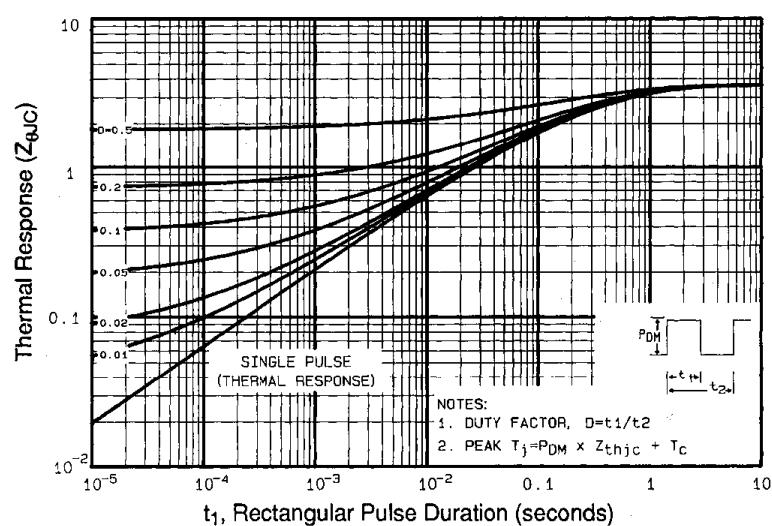

Fig 11. Maximum Effective Transient Thermal Impedance, Junction-to-Case
① Repetitive rating; pulse width limited by max. junction temperature (See Figure 11) ③ $I_{\text{SD}} \leq 3.6\text{A}$, $di/dt \leq 60\text{A}/\mu\text{s}$, $V_{\text{DD}} \leq V_{(\text{BR})\text{DSS}}$, $T_J \leq 150^\circ\text{C}$ ⑤ $t=60\text{s}$, $f=60\text{Hz}$ ② $V_{\text{DD}}=50\text{V}$, starting $T_J=25^\circ\text{C}$, $L=73\text{mH}$